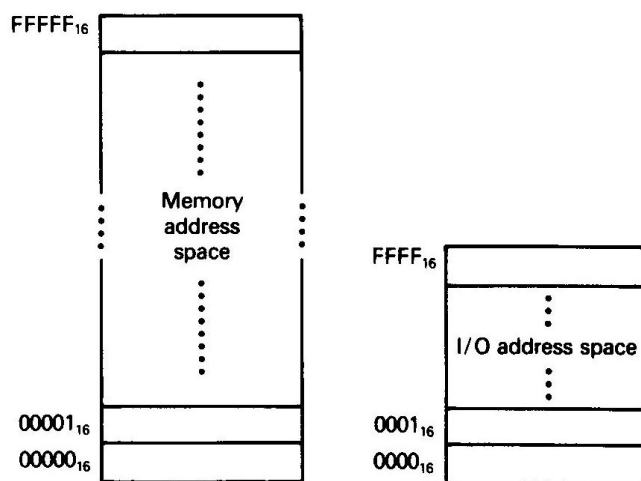

Figure 8-44 8088/8086 memory and I/O address spaces.
- **Isolated Input/Output:** In this scheme, the I/O devices are treated **separate from** memory (see **Fig. 8-44**). I/O ports are organized as **bytes of data**; the memory address space contains 1M consecutive byte addresses in the range 00000_{H} , through FFFFF_{H} ; and the I/O address space contains 64K consecutive byte addresses in the range 0000_{H} through FFFF_{H} .